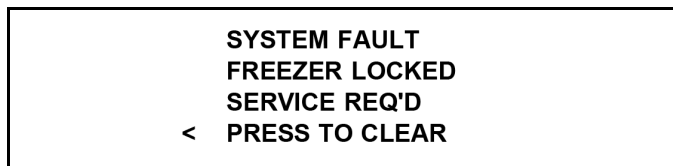

Figure-181
2. There has been a thermistor failure (freezing cylinder, hopper, or glycol) during the Heat Treatment process. (See Figure-181.)